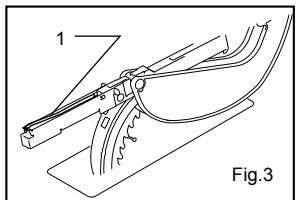

Fig.3
3. Once the locking lever pin is placed into the riving knife/spreader notch it is to be locked into position by pushing the tab of the pin's locking lever into the locked position as shown in Figure 3. Once the pin's locking lever is in the locked position check to ensure that the guard assembly is properly attached to the riving knife/spreader assembly by pulling up on the guard assembly and making sure it does not move its position.
3. Once the locking lever pin is placed into the notch provided on the blade guard assembly it is to be locked into position by pushing the tab of the pin's locking lever into the locked position as shown in Figure 3.